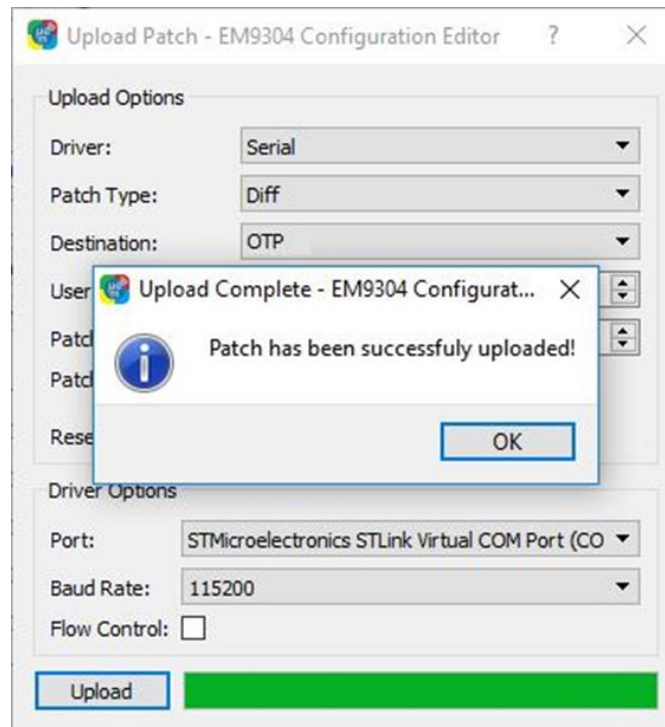

Figure 35 Patch upload successful.
7. The message box will indicate the patch uploaded successfully as shown in Figure 35. Click **OK** in the **Upload Complete** message box.